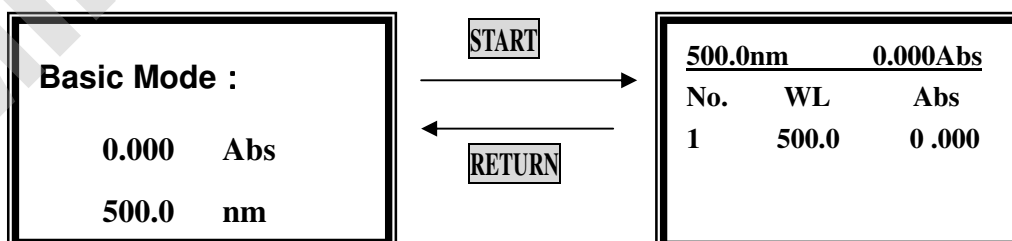

Fig. 5
- ✧ Press **[ENTER]** to change the wavelength, and then blank; After blanking, the screen displays as the left one of Fig 5.
- ✧ Press **【START/STOP】** in the left one of Fig. 5 to go into testing interface.(The right one of Fig 5)
- ✧ Press **【START/STOP】** again in the right one of Fig. 5, the testing result displays on the screen, repeat this step, the results will display on the screen one by one.
Print test report (For example: Print the report in “Basic mode”, the right one of Fig. 5)
- ✧ Press **【PRINT】** in the right one of Fig.5 to print the report (Fig. 6)